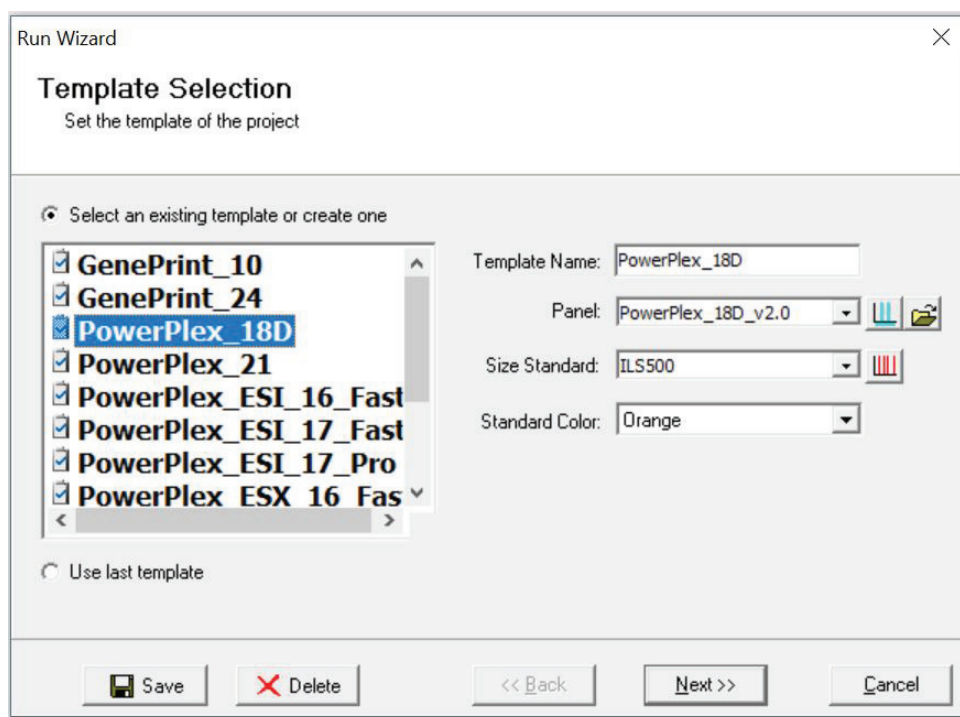

Figure 28. The 'Template Selection' window.
- Click on **Run** in the Magic Wizard or click the **Run Project** icon (green arrow) in the toolbar. The 'Template Selection' screen will appear (Figure 28). Select the PowerPlex_18D template and the settings shown in Figure 28. Verify the panel that you created in Step 6 is selected in the panel drop-down field. The Size Standard must be ILS500 and the Standard Color must be Orange. Select **Next**.